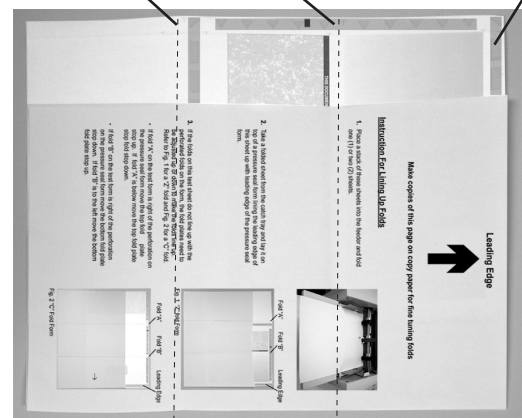
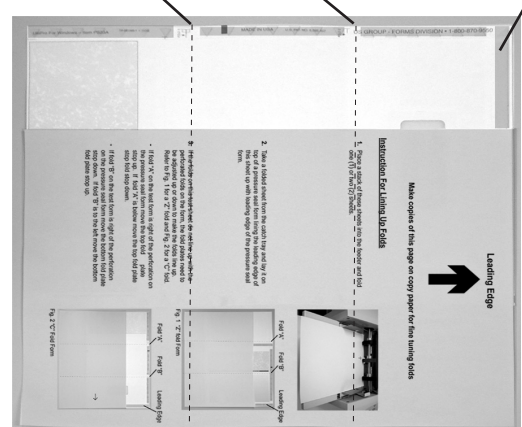

Fig. 1 "Z" fold Form
Fig. 2 "C" Fold Form
3. If the folds on this test sheet do not line up with the perforated folds on the form, the fold plates need to be adjusted up or down to make the folds line up. Refer to Fig. 1 for a "Z" fold and Fig. 2 for a "C" fold.